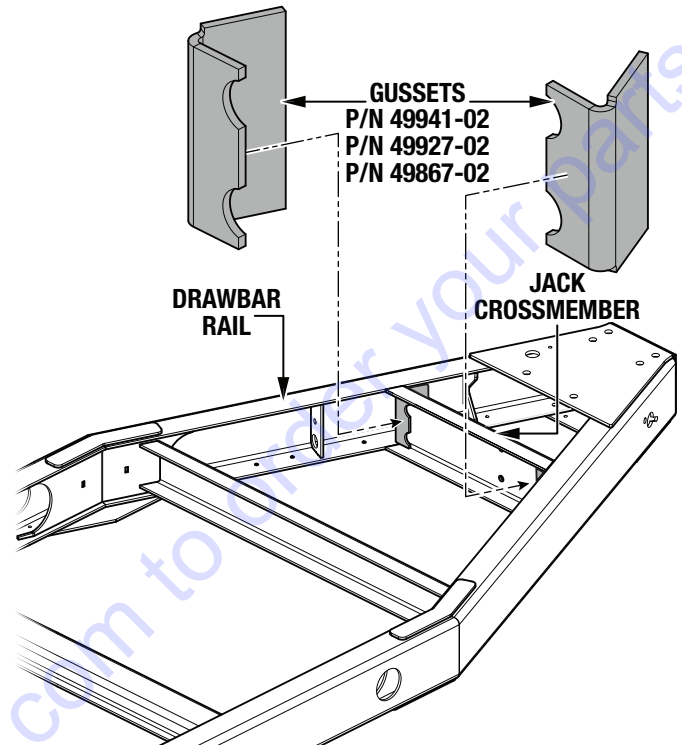

Figure 4. Gusset Placement
1. Place the gusset (P/N 49941-02, P/N 49927-02, or P/N 49867-02) between the jack crossmember and drawbar rail as shown in Figure 4.